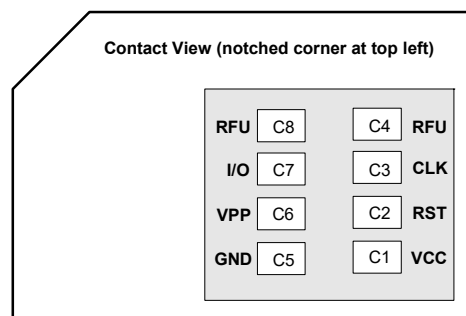

Figure 3-6: SIM Card Contacts (Contact View)
a. See Figure 3-6 on page 31 for SIM card contacts.